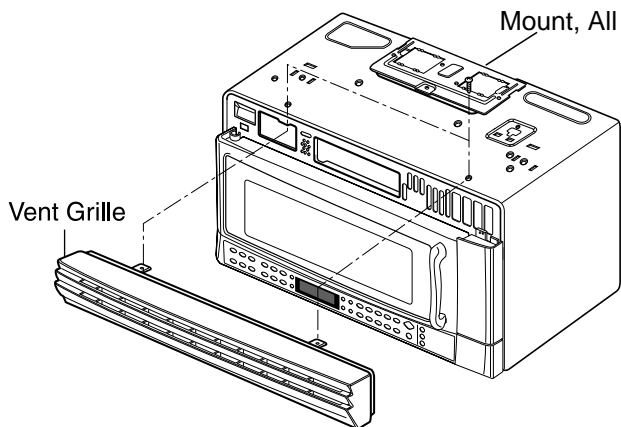
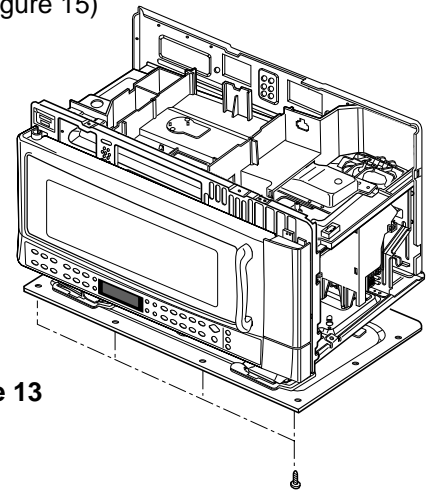
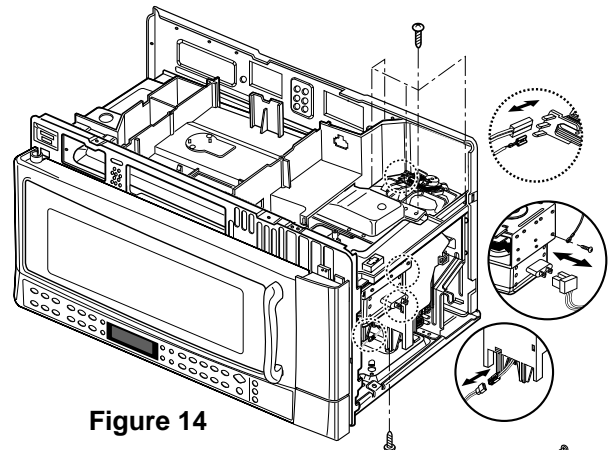
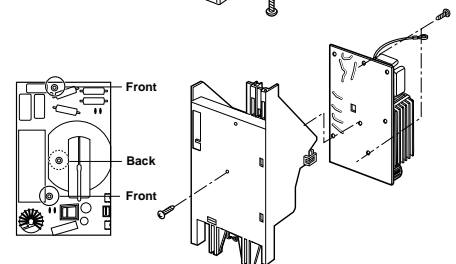

Figure 11
Figure 13
Figure 14
Figure 15
(Figures 11 Through 12)
- (1) Remove the vent grille by loosening two screws. (Figure 11)
- (2) Remove the outcase. See page 7-5.
- (3) Remove four tap tite screws securing the magnetron to the wave guide.
- (4) Remove the magnetron VERY CAREFULLY.
(Figures 13 Through 15)
- (3) Remove the base plate by loosening four screws. (Figure 13)
- (4) Disconnect two leadwire of the fan motor assembly.
- (5) Disconnect the leadwire of the inverter PCB and H.V. cable of the magnetron.
- (6) Remove the earth wire screw.
- (7) Remove three screws securing to duct assembly and two screws securing to fan guide. (Figure 14)
- (8) Remove the screw securing to inverter module assembly.
- (9) Push the inverter guide hook and out the inverter module assembly lifting up duct assembly.
- (10) Open the upper inverter guide.
- (11) Remove three screws securing to PCB and pull out PCB. (Figure 15)